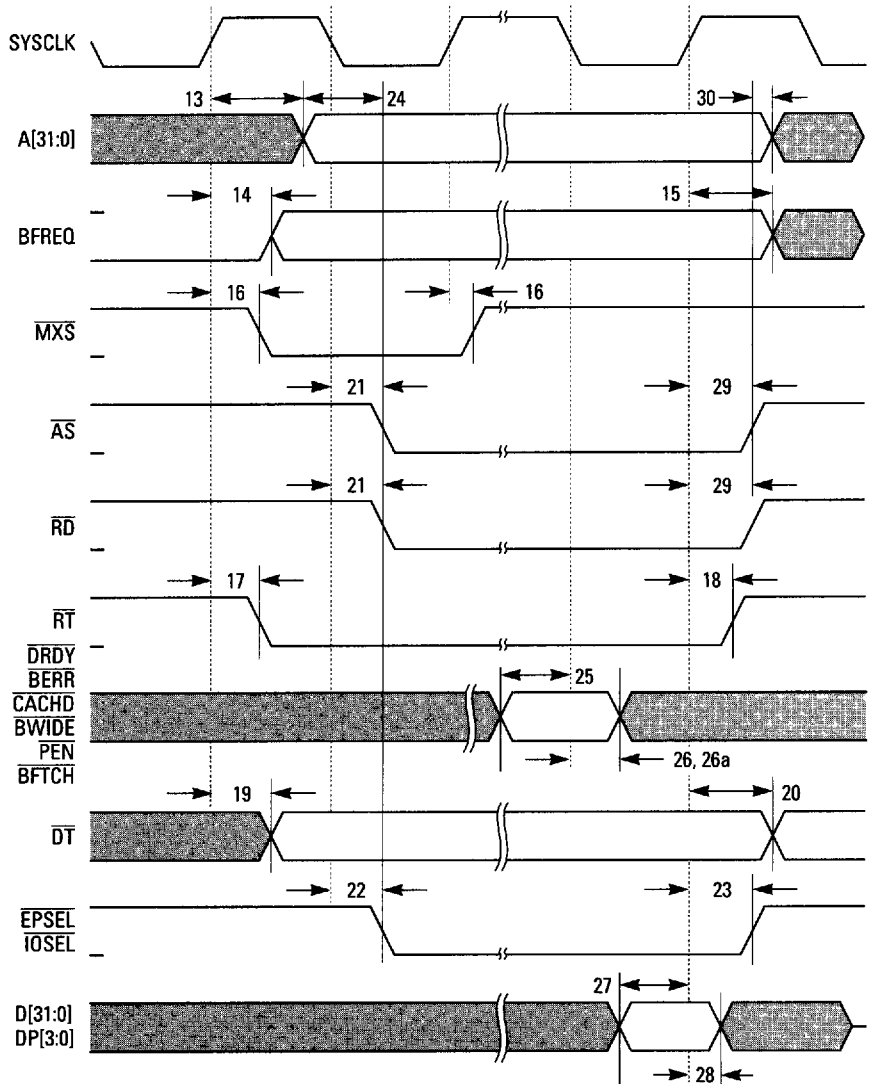

Figure 6
- Write Transaction Timing (Figure 6)